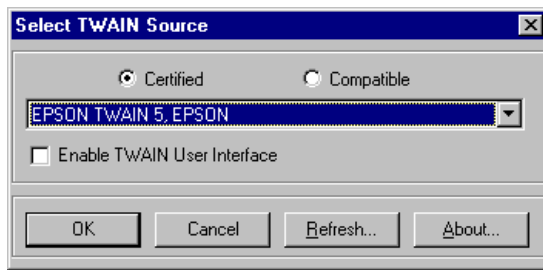

Figure 44. Select TWAIN Source Dialog Box – ScanDemo
- 5 Select the TWAIN source if your scanner uses a TWAIN driver as shown in Figure 44.